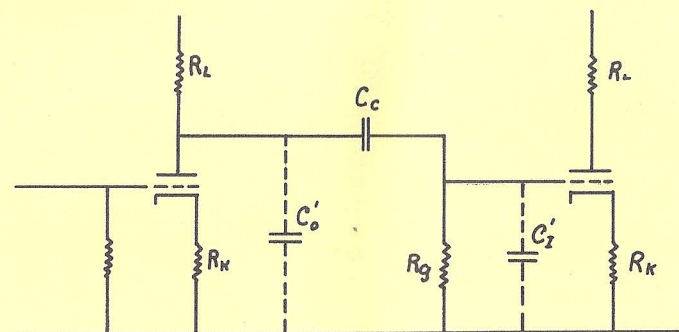

Fig. 1
Let R_g in Fig. 1 be 390K and it is desired to find the nearest standard value of condenser for C_o that will give a loss of 1 db at 20 cycles. Set the indicator to -1 on the (db) scale. Move the slide and set 2 on the (F) scale to the hair line. Re-set the indicator to .39 on the (X_c) scale. Under the hair line read .4. Determining the decimal point gives a value of .04 μf . If this value is not convenient and say .05 μf is more suitable, move the slide till .5 (for .05 μf) is at .39 (for 390K) and read $F = 16.2$ for -1 db response. The impedance Z in polar form represented by the coupling as a load on the tube may be solved by the relation of $|Z| = \frac{R}{\cos \theta}$. $\cos \theta$ and θ may be read directly for any value of frequency when C is set to R. The (C) and (X_c) scales are used to compute $\frac{R}{\cos \theta}$. Set the left index of scale (C) to R on (X_c) .
At high frequency the circuit in Fig. 1 resolves into the equivalent circuit of:-